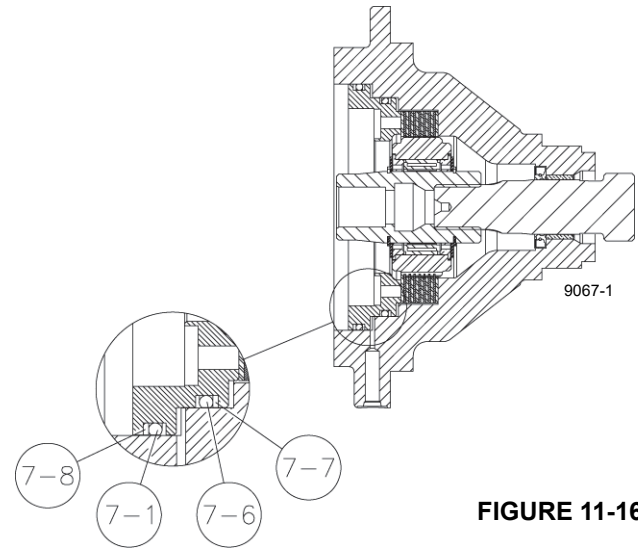

FIGURE 11-16
12. Install the stator plates (19) and friction discs (18) into the brake housing starting with a stator and alternating friction discs and stator plates. There is one more stator plate than friction disc so you will finish with a stator plate.
13. Coat the new o-rings and backup rings (7-1, 7-6, 7-7, and 7-8) with light oil and install onto the piston (10, Figure 11-16).